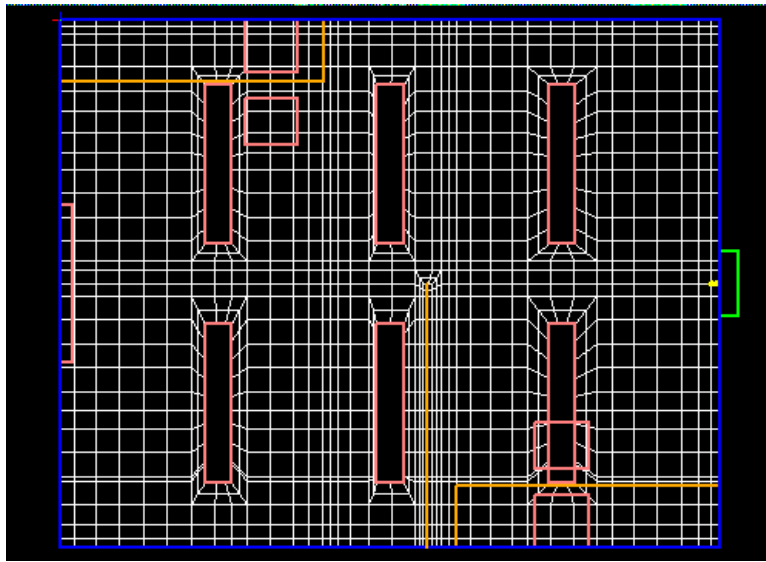

Figure 26.1.1: Mesh with Small Elements Near Objects and Large Elements in Open Spaces
The meshing procedure that **Airpak** follows is based on a set of rules that govern how each type of object is to be meshed. **Airpak** operates on a “cocooning” methodology whereby each object is meshed individually, as tightly as your specifications permit, in order to resolve the physics of the solution optimally. In every case, optimal resolution of the physics depends on the specific problem to be solved. The mesh elements are smaller near objects (as shown in Figure 26.1.1), to take into account thermal and velocity gradients that are often present near the boundaries of an object. By contrast, the open spaces between objects are meshed with large elements, to minimize computational costs.
- The mesh must be fine near objects where the gradients of temperature and velocity may be very large (e.g., heated blocks or partitions, room walls with nearby objects). See Figure 26.1.1 for an example.
- The expansion ratio from one mesh element to the next should be kept in the range between 2 and 5, although in some critical areas a lower value might be better. The mesh in Figure 26.1.1 shows good expansion ratios.